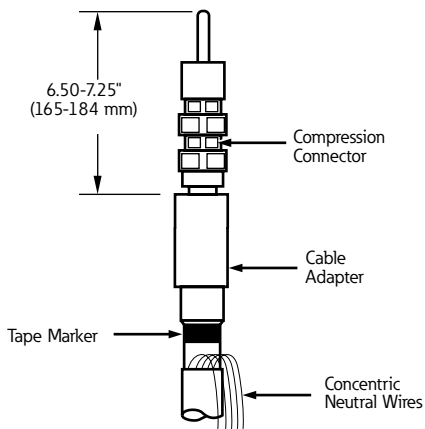

Figure 23. Line illustration for dimensional check.
- Length should be between 6.50-7.25" (165 - 184 mm). Refer to Figure 23.